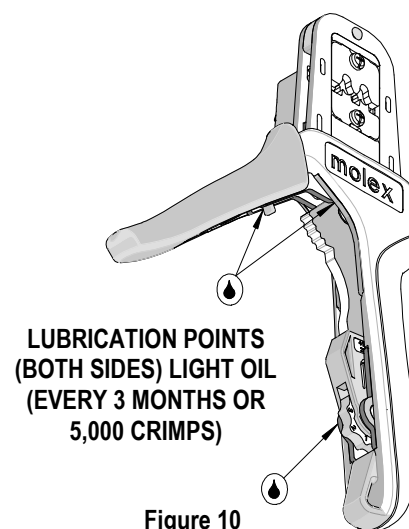

Figure 10
1. Hold the hand tool in the palm of your hand as shown in Figure 10. Using the index finger squeeze the link towards the top of the hand tool frame. This will release the preload adjustment wheel.